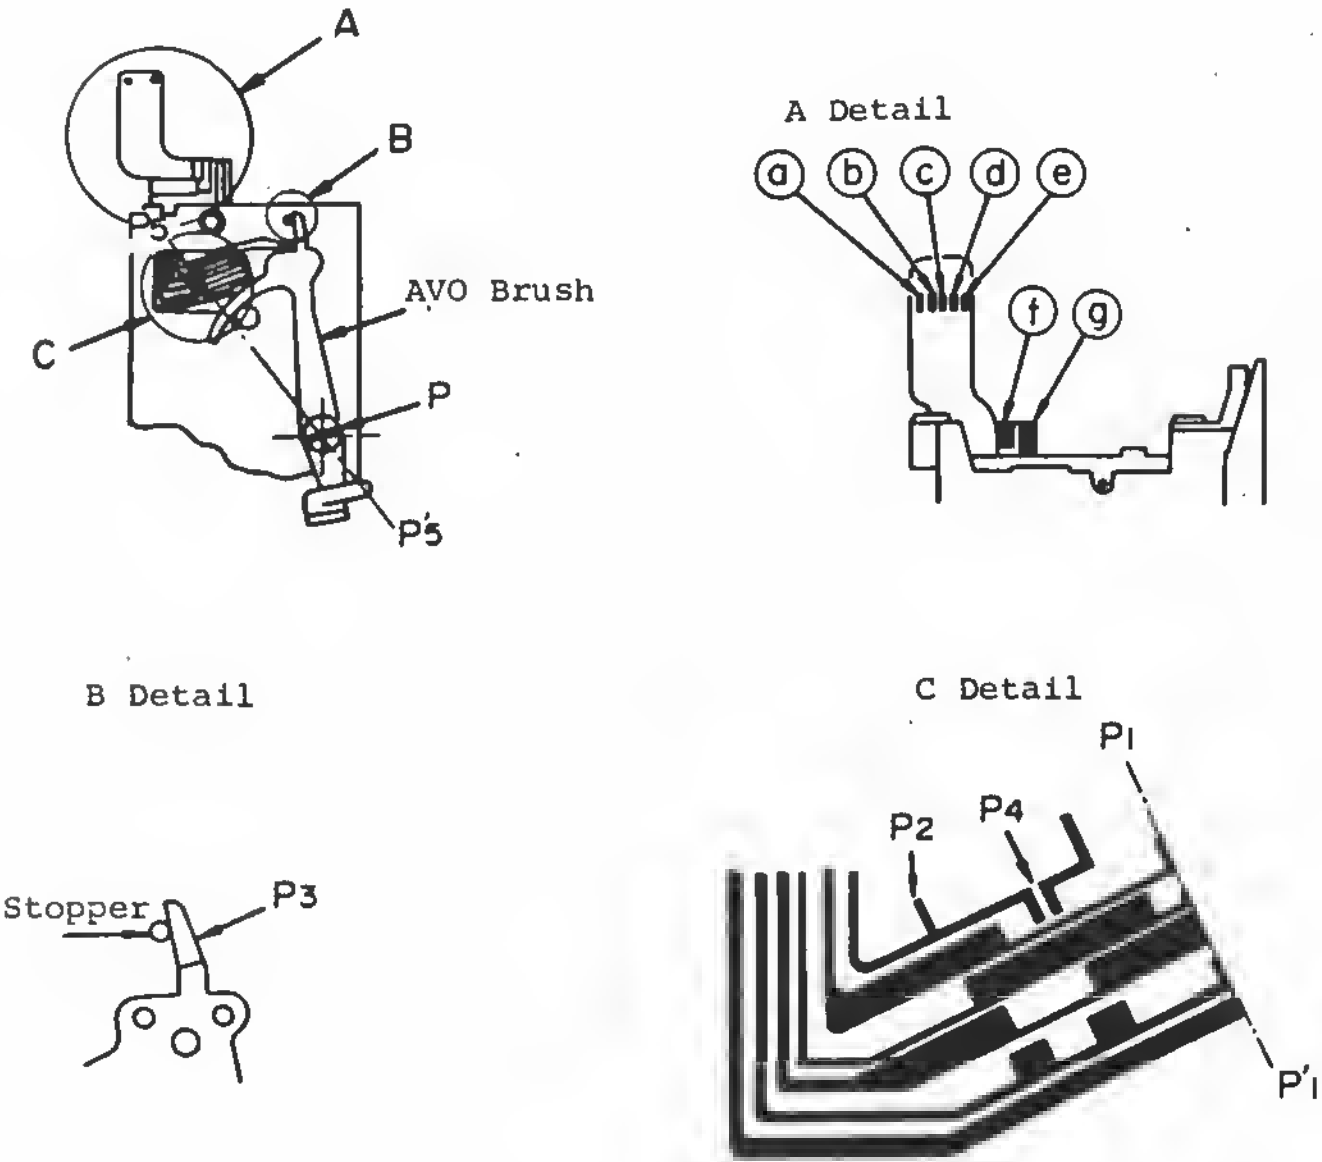

Fig. 2-9
- 1. Set the AVO brush at P1 - P1'. (Fig. 2-9)
1. Position the AVO brush against its stopper (Fig. 2-9, Detail B).
1. Two ohmmeters are necessary for this test. They should both be set on low OHM scales. Place the plus (+) lead of meter A on "f" and the minus (-) on "a" (Fig. 2-9).
2. Place the + lead of meter B on "g" and the - lead on "a" (also Fig. 2-9).